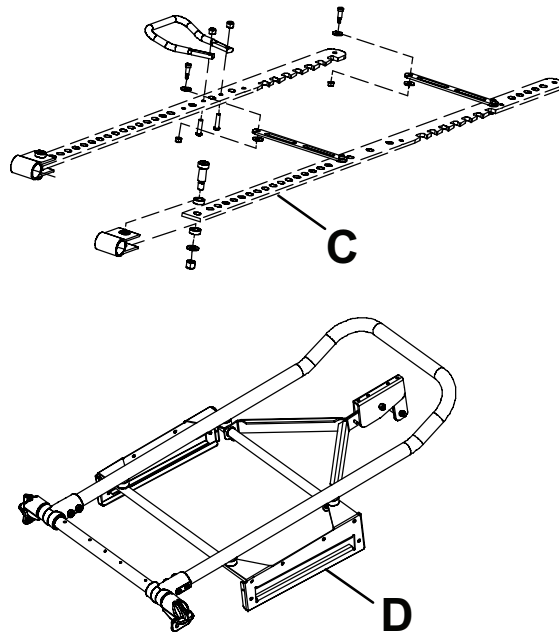

Figure 2 – Height adjustment racks and side plates
- Apply **Tri-Flow™** to the right and left height adjustment racks (C) (Figure 2). Provide an even application.
- Apply **Tri-Flow™** to the right and left slide plates (D) (Figure 2). Provide an even application.